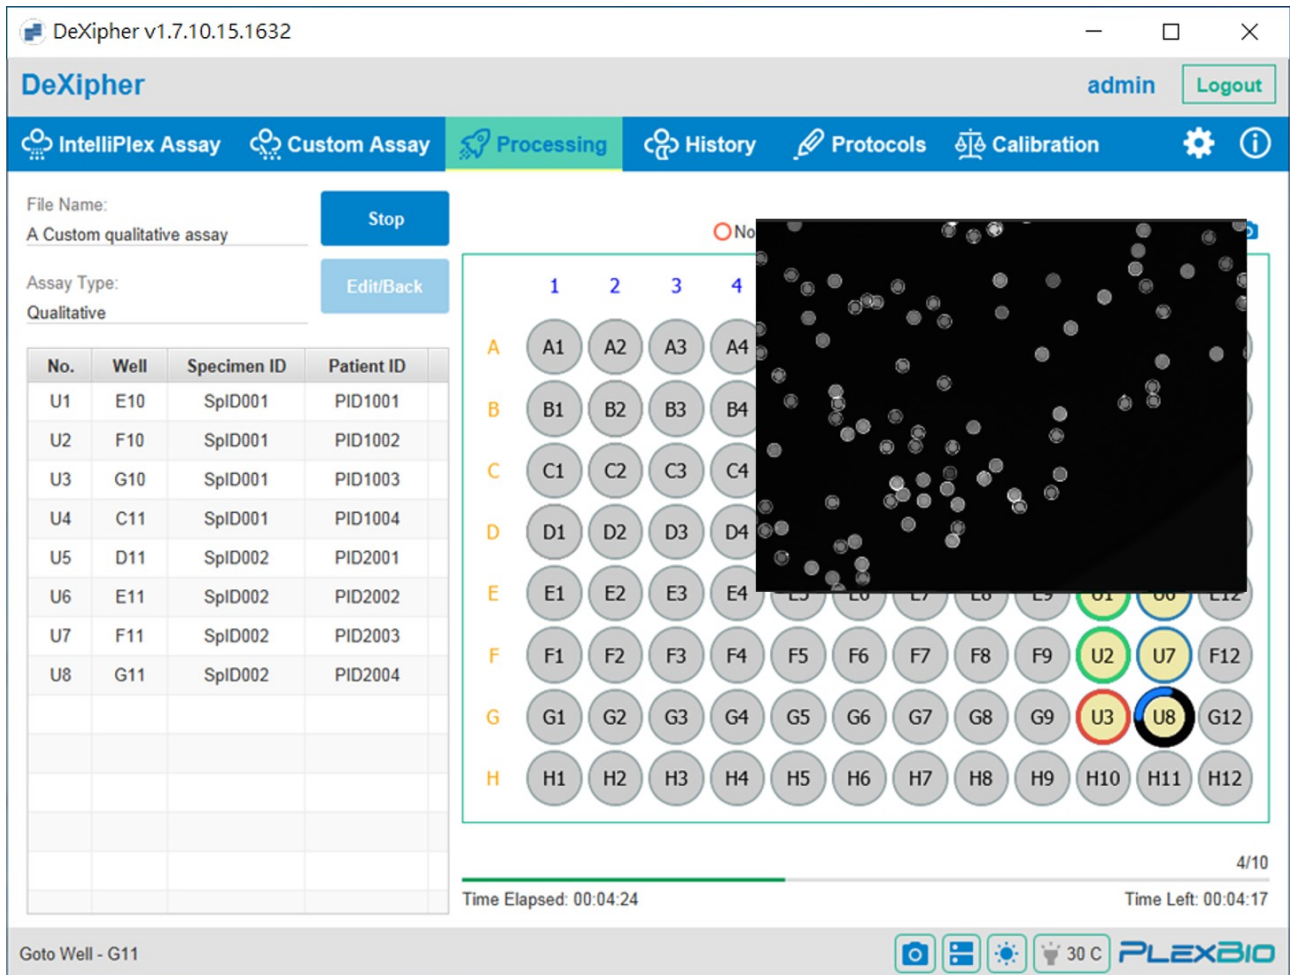

Fig. 25. Processing screen during reading
- Step 12. PlexBio 100 Fluorescent Analyzer starts to read selected wells (Fig. 25).